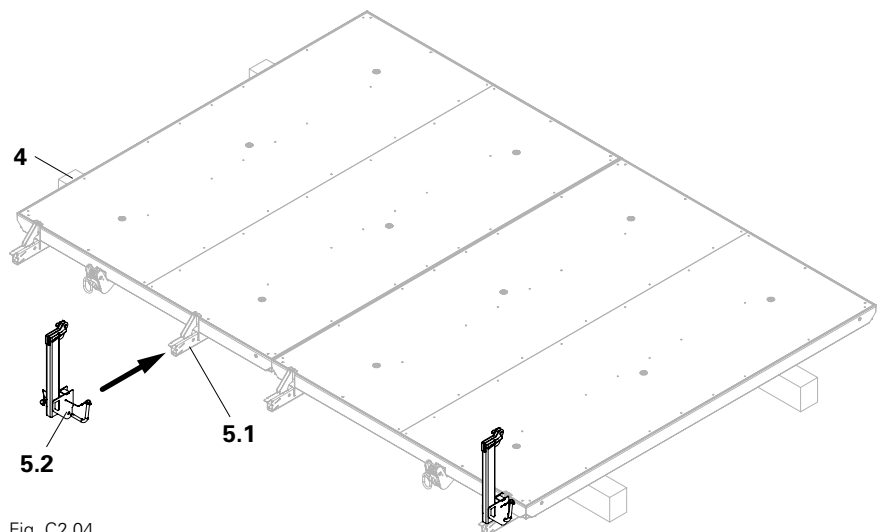

Fig. C2.04
9. Connect mounting part (**5.2**) with base part (**5.1**). (Fig. C2.04)